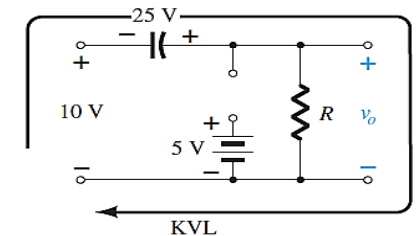

Fig. 1.3: Determining v_o with the diode in the "off" state.
Step 3: For the period $t_2 \rightarrow t_3$ the network will appear as shown in Fig. 1.3 .
Step 4: The time constant of the network of Fig. 1.3 is determined by the product RC and has the magnitude $\zeta = RC = (100 \text{ k}\Omega)(0.1 \text{ }\mu\text{F}) = 0.01 \text{ s} = 10 \text{ ms}$